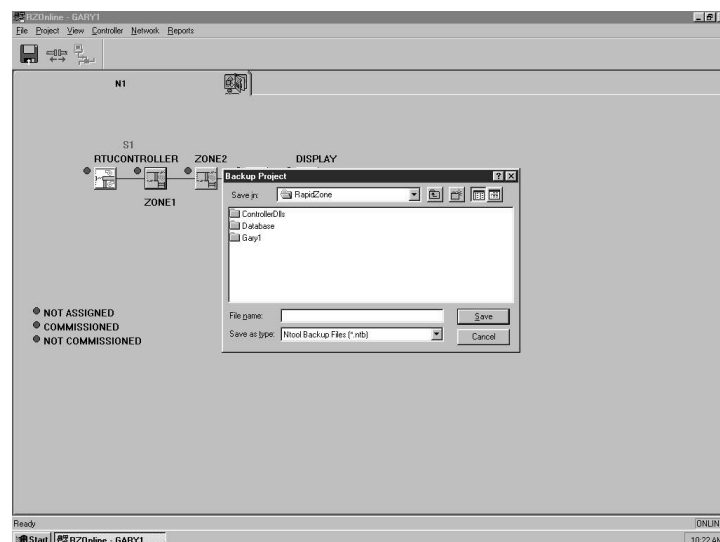

Fig. 69. Backup Project screen.
3. Create RapidZone backup from RZ Connect. On main menu click Project, select Backup. The Backup Project screen displays per Fig. 69 (this backup has .ntb format compatible with LONSPEC™ 2.02.0).